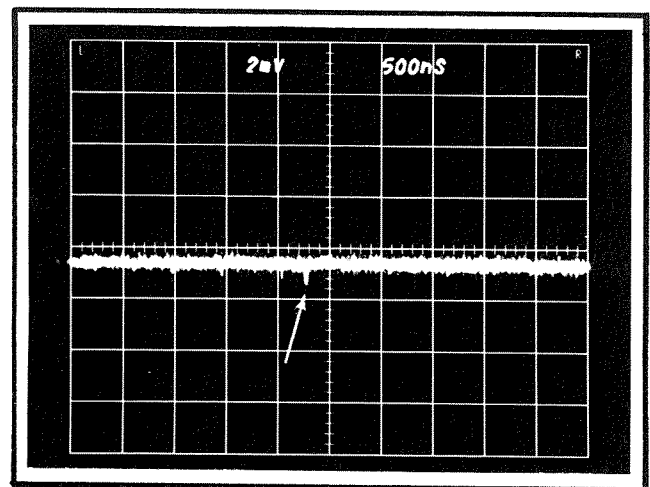

Fig. 5-12. Typical display of trigger kickout.
- d. Check that the trigger kickout pulse is within 2 mV or less (see Fig. 5-12).